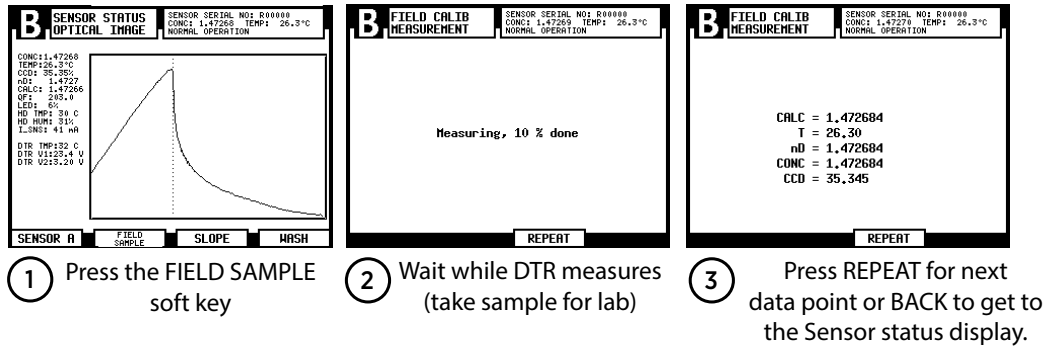

Figure 37 Using FIELD SAMPLE soft key
- *From DTR display*: See Figure 37 \(page 74\).